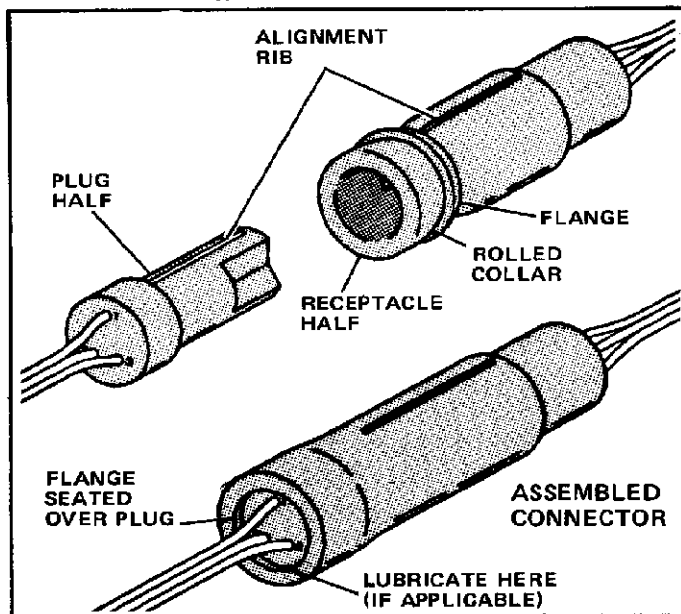

FIGURE 3
2. After all contacts are installed, roll the collar of the receptacle back over itself (inside out) as shown in Figure 3.
4. Apply inward pressure on the plug — then roll the receptacle collar forward. Make sure the flange seats over the end of the plug as shown in Figure 3.